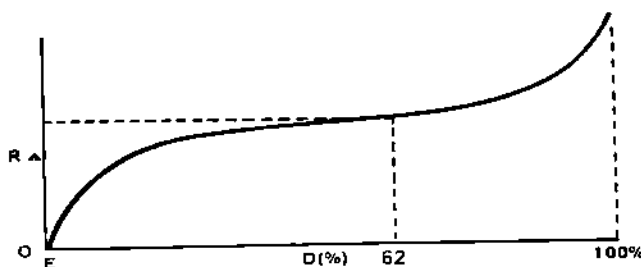

Figure 3-4. Typical Curve for Earth Electrode Resistance Versus Distance from Electrode to C₂ Rod.
d. **LARGE EARTH ELECTRODE SYSTEMS OR LARGE AREA GROUND GRIDS.** In general, the three-point or fall-of-potential method is also applicable to large area earth electrodes. However, the distance to the C2 current rod should be about five times the largest dimension or diagonal of the earth electrode or ground grid area. The P2 potential rod should then be positioned at 62% of the distance from the center of the grid to the C2 rod. See Figure 3-4.